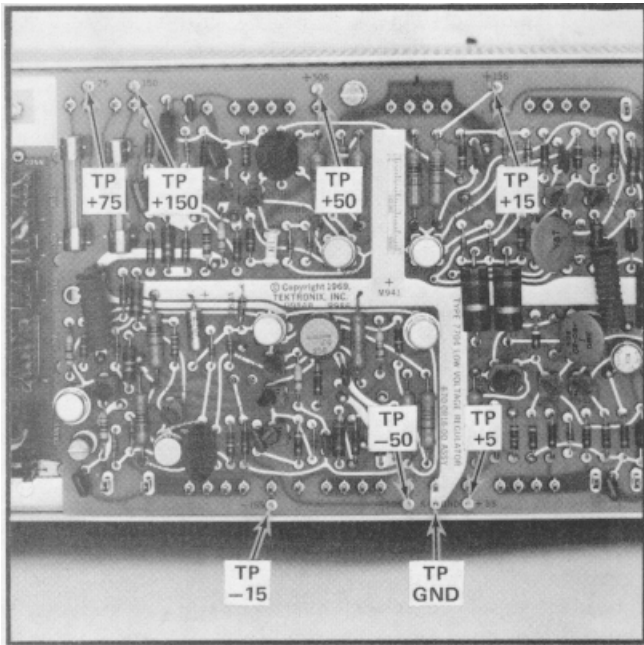

Fig. 4-4. Location of power-supply test points on Low-Voltage Regulator board.
Incorrect operation of all circuits often indicates trouble in the power supply. Check first for correct voltage of the individual supplies. However, a defective component elsewhere in the instrument can appear as a power-supply trouble and may also affect the operation of other circuits. Table 4-3 lists the tolerances of the power supplies in this instrument. These voltages are measured between the power-supply and ground test points (on Low-Voltage Regulator board). See Fig. 4-4 for power-supply test point location. If a power-supply voltage is within the listed tolerance, the supply can be assumed to be working correctly. If outside the tolerance, the supply may be misadjusted or operating incorrectly. Use the procedure given in the Calibration section to adjust the power supplies.
2.3 Set the POWER switch to ON. Then, measure the output of each supply between the designated test point (see Fig. 4-4) and the ground test point with the voltmeter. Tolerance for each supply is given in Table 4-3.